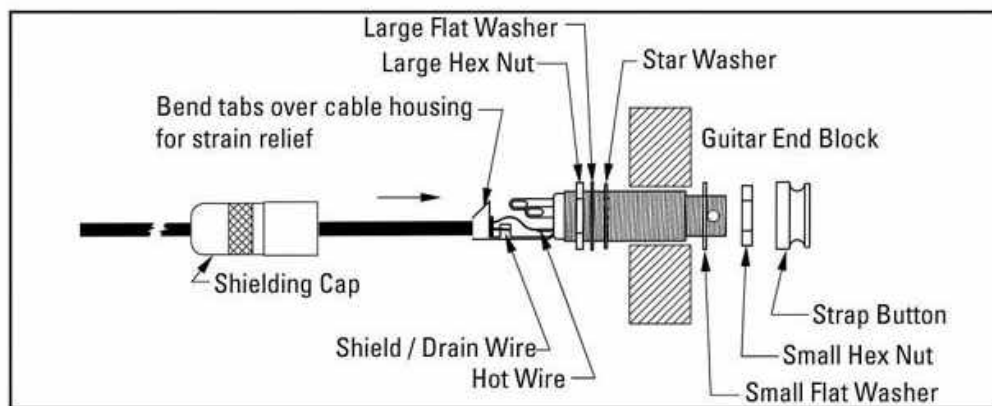

Figure 4
2) Draw the cable from the transducer out through the sound hole. Next thread the shield cap, large hex nut, thick washer and the star washer over the wire (refer to Fig. 4). **Cover your guitar with a piece of cardboard to protect the finish!**
3) Carefully solder the wires to the jack. Solder the hot wire to the shortest terminal. If you are installing a Stereo Sadducer, solder the hot lead from the second transducer to the medium length terminal. Shield wires are soldered to the ground lug (refer to Fig. 4). The longest terminal remains unused.